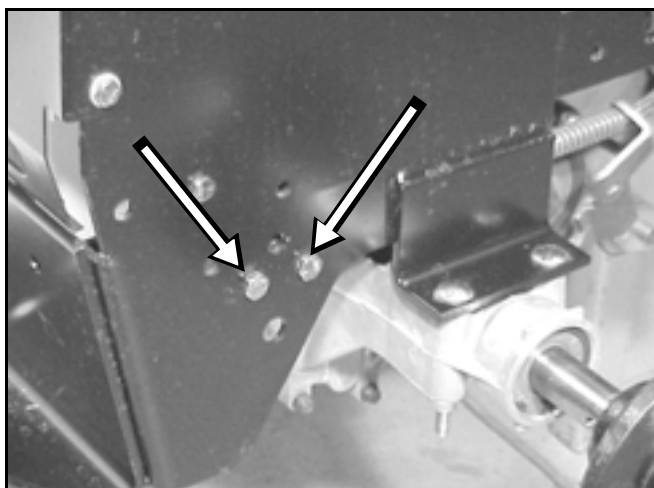

Figure 121
6. Unbolt the cruise control magnet bracket from the side of the frame (Figure 121).